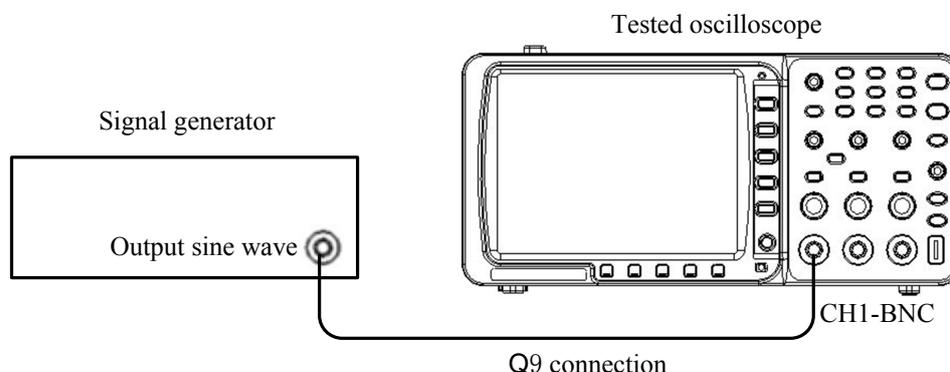

Figure 4: Connection of voltage measurement and error inspection
A. As shown by Figure 4 connected:
A. As shown by Figure 4 connected. The CH1 is set as follows:
A. As shown by Figure 4 connected.